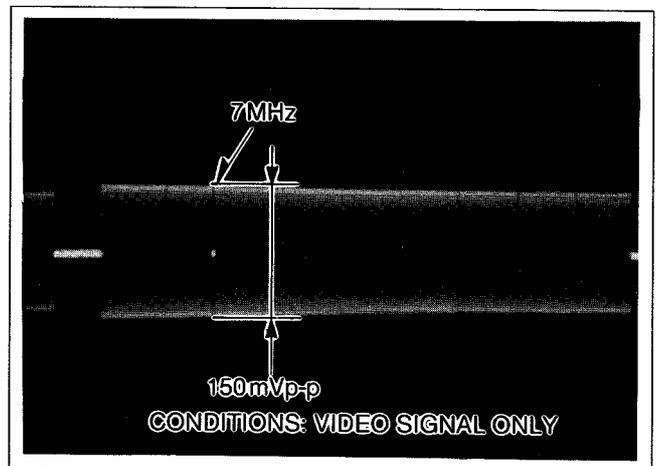

Fig. E10
5. Set the Video Sweep Signal Generator (video signal only) as shown in Fig. E10.